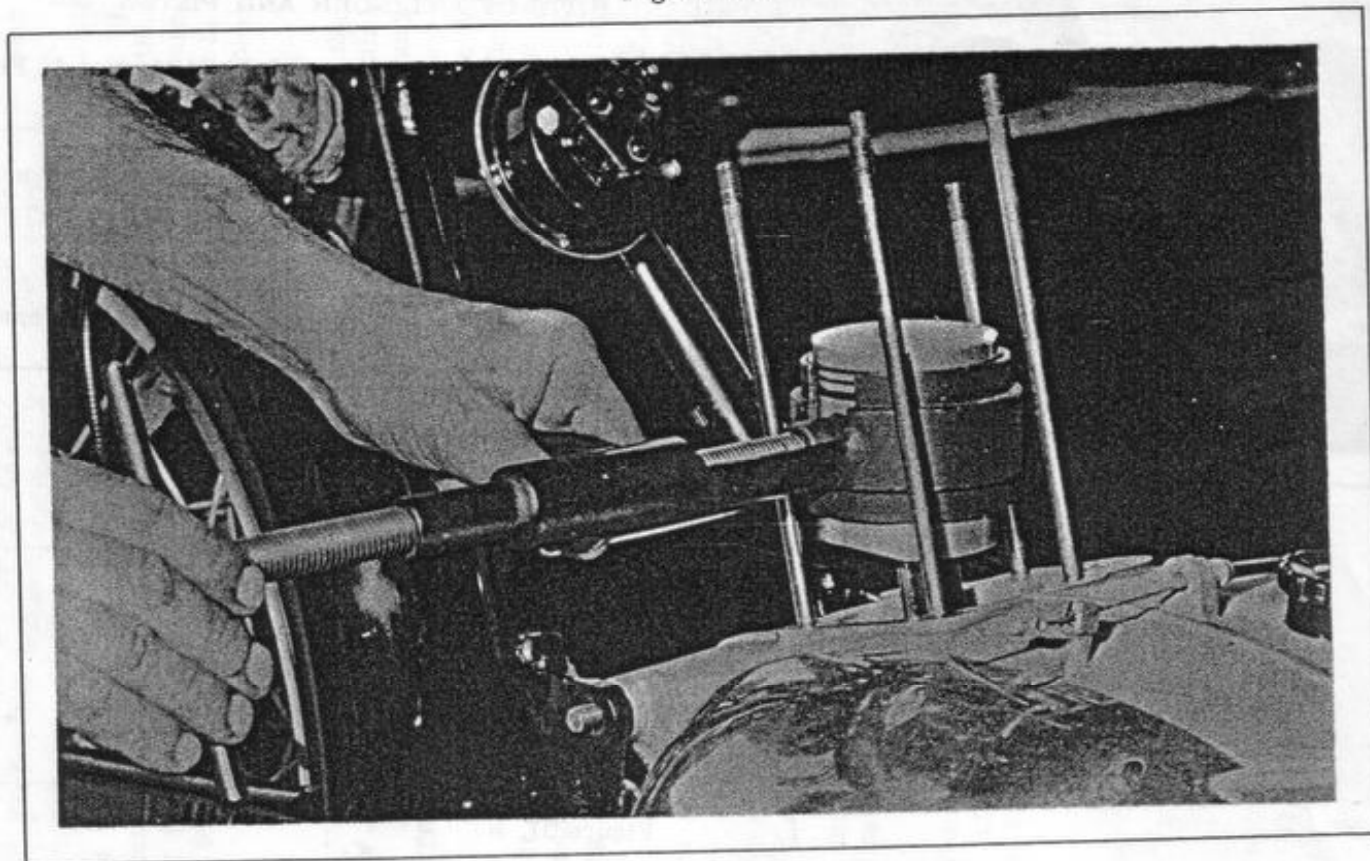

Figure 29.
11. Use tool GG to force out the piston pin (Figure 29).